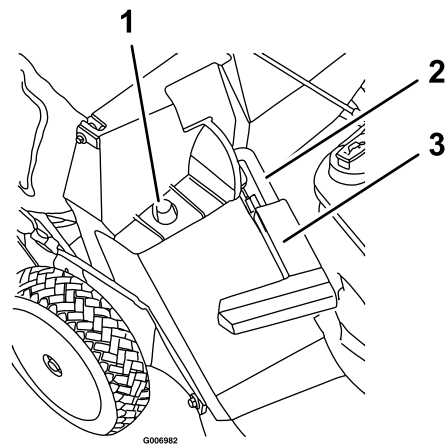

Figure 14
2. Ensure that the discharge door handle is fully forward and that the pin is engaged in the catch (Figure 14).
2. Raise the discharge door handle and move it forward to engage the pin with the catch (Figure 14).